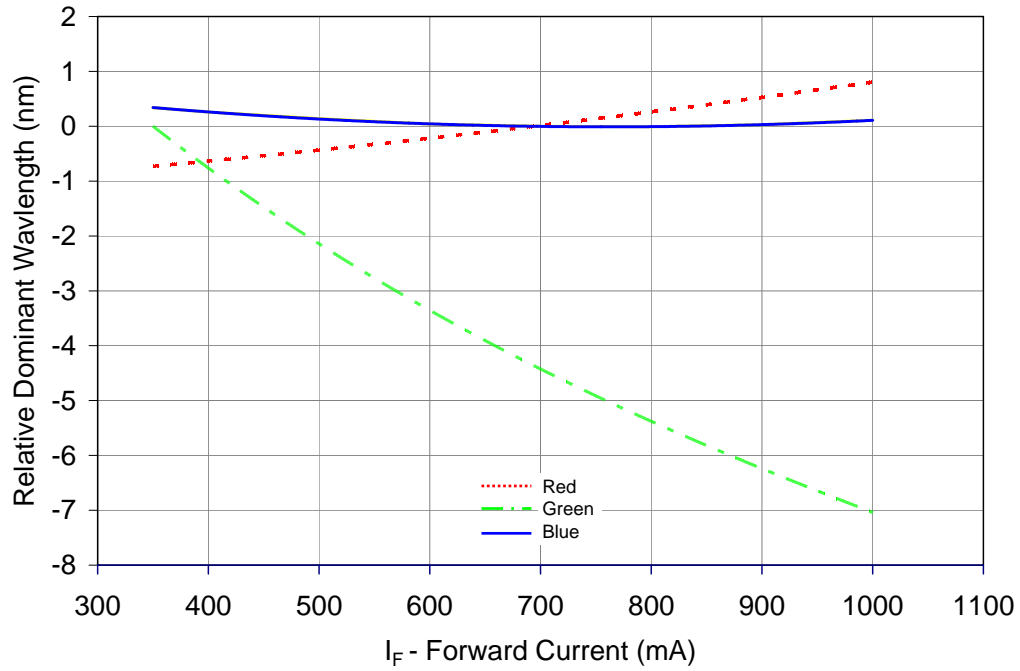

Figure 6: Typical dominant wavelength shift vs. forward current @ Tc = 25°C.
- Green LEDs are binned for dominant wavelength @  $I_F = 350\text{mA}$ . Refer to Figure 6 for typical dominant wavelength shift over forward current.
- Refer to Figure 6 for typical dominant wavelength shift over forward current.
Notes for Figure 6: